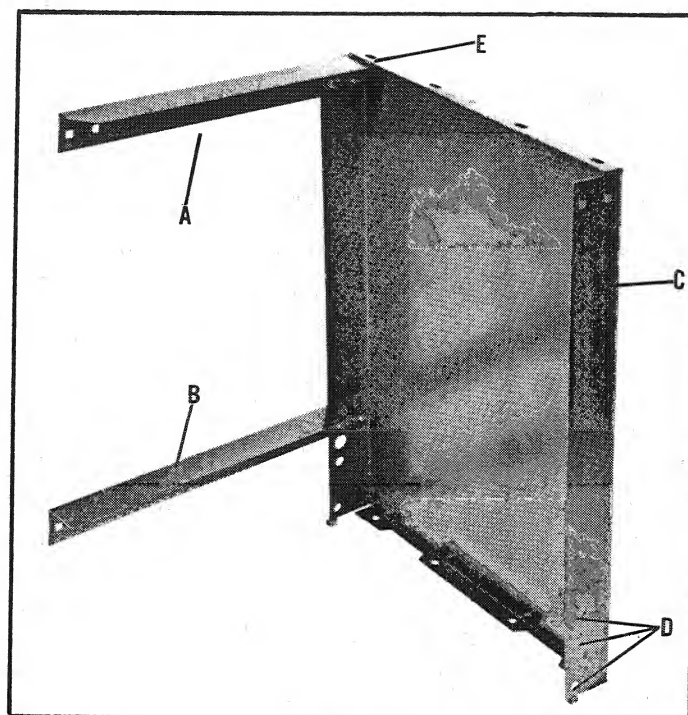

Fig. 1
2. Assemble one short top brace (A) and one long bottom brace (B) to panel (C), as shown in Fig. 1, using the eight carriage bolts, flat washers, lockwashers and hex nuts supplied. The bottom of the panel (C) can be determined by the holes (D) for the Accessory 50-118 Retractable Caster Attachment. **IMPORTANT:** The top brace (A) must be assembled to the panel (C) with the lip (E) of the panel positioned on top of the brace as shown.